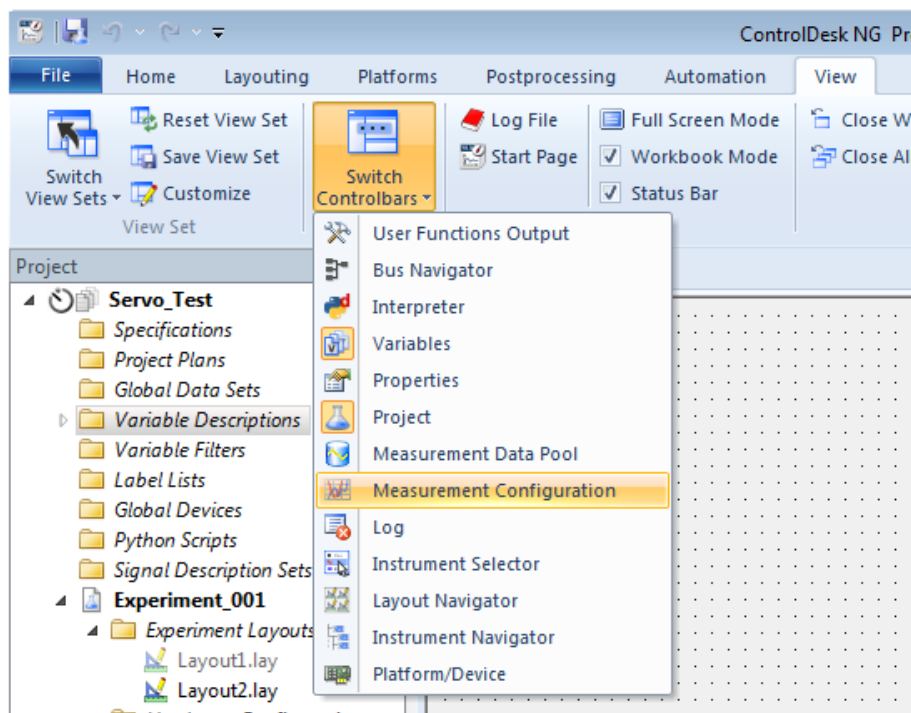

Figure 46: Activation of the recording tool bar
1. To be able to work with historical data of the variables, it is necessary to record their behavior during a real time experiment, and export them to a file. To analyze the data in MATLAB, a file can be generated with the recorder tool of ControlDesk. To display the 'Measurement Configuration' bar, go to the tab 'View', click on 'Switch Controlbars' and select 'Measurement Configuration', as seen in figure 46